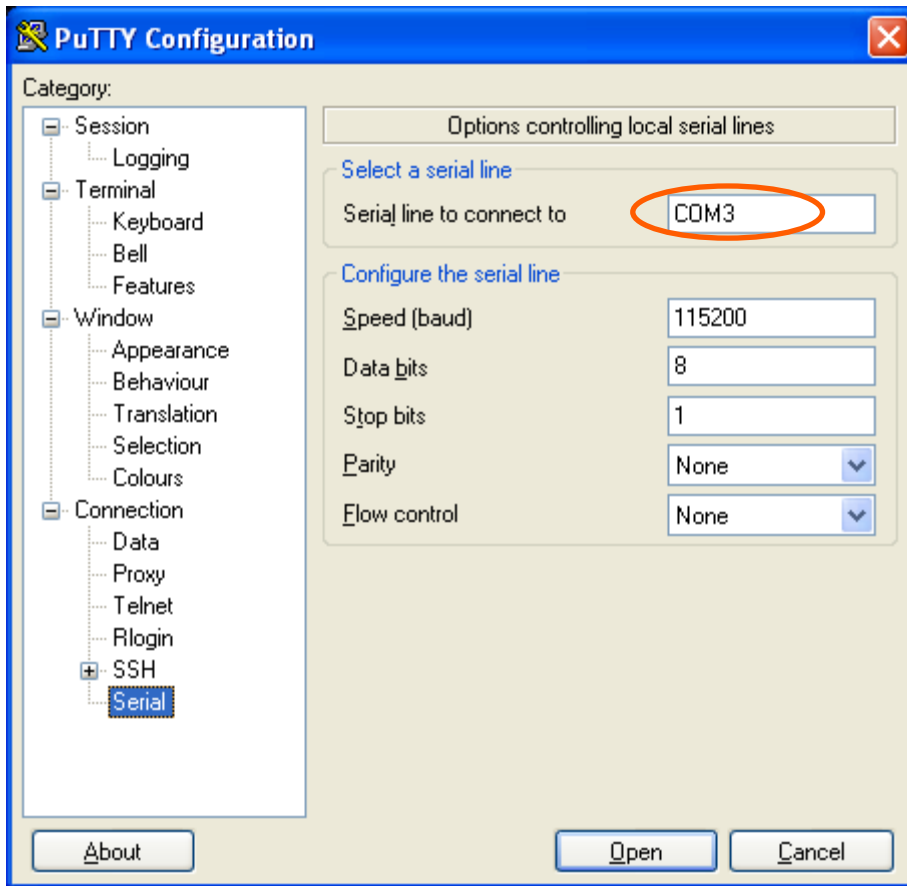

Figure 38: Settings in PuTTY
- Start PuTTY on your computer and make sure the “Options controlling local serial lines” are as in Figure 38: Settings in PuTTY: